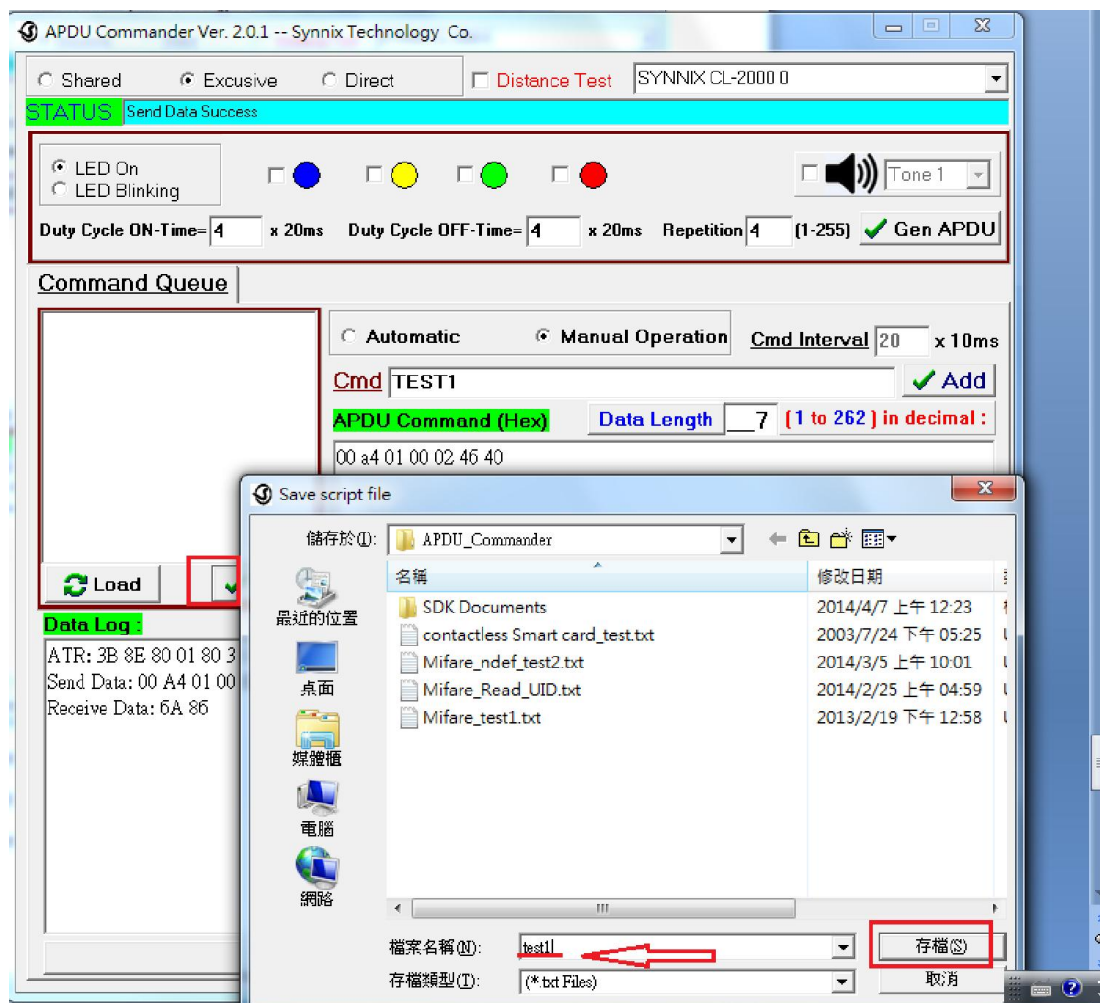

Figure 16
- 10. Click on "Save" button to save all commands from command queue. See Figure 16.